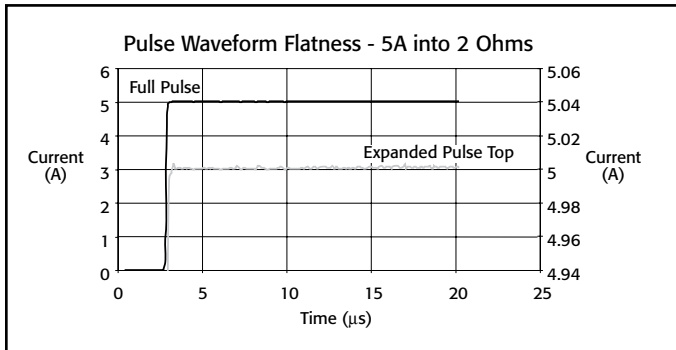

Figure 2
**Figure 2.** The Model 2520 integrates synchronization, source, and measure capabilities in a single half-rack instrument (with remote test head) to provide maximum flexibility and test throughput.